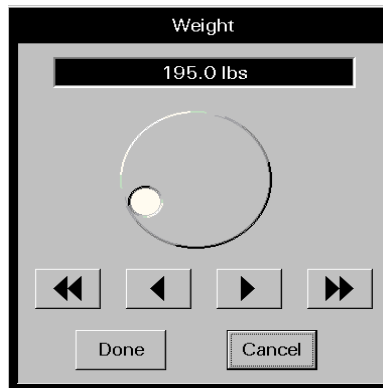
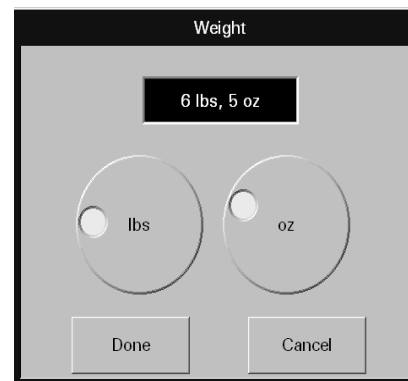

FIGURE 5-5 Weight Dialog Box
FIGURE 5-6 Weight Dialog Box
- From the Demographics tab, select the Weight field. The Weight dialog box (shown in FIGURE 5-5 and FIGURE 5-6) is displayed.